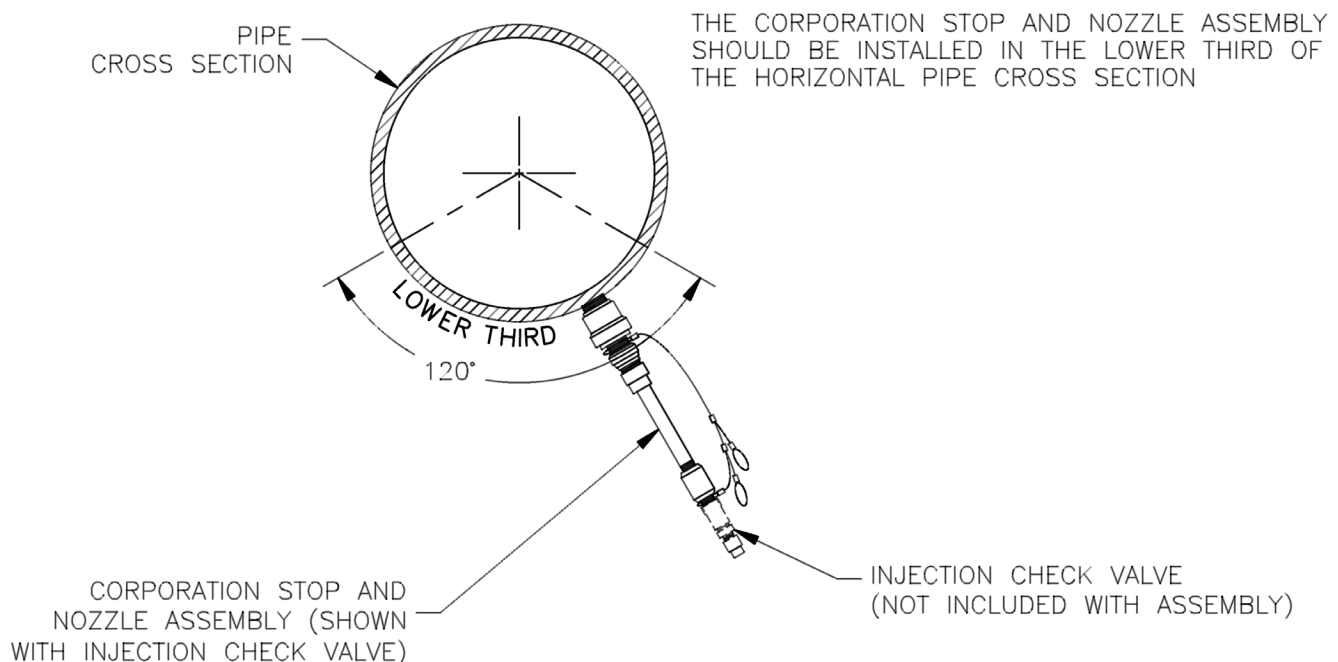

Figure 5 : Corporation Stop and Nozzle Assembly
- Injection should take place 45° from the bottom of the pipe and protrude 1/3 of the way into the diameter of the pipe. A corporation stop with withdrawable injection nozzle is a helpful accessory. It permits removal of the entire injection line for service or inspection while the water main is under pressure (see Figure 5 for LMI Corporation Stop and Nozzle Assembly).